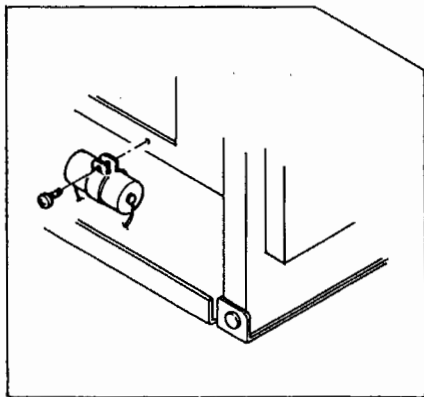

Fig 6.18
- (1) If the MAIN BAT indicator on top of the front panel lights up, replace the batteries.
- (2) Turn the power supply OFF and in case of the LR8100E unscrew 4 screws; 2 on top of the recorder and 2 at the rear, using a Phillips screwdriver (Fig. 6.18); in case of the LR12000E, unscrew 2 screws at the rear.